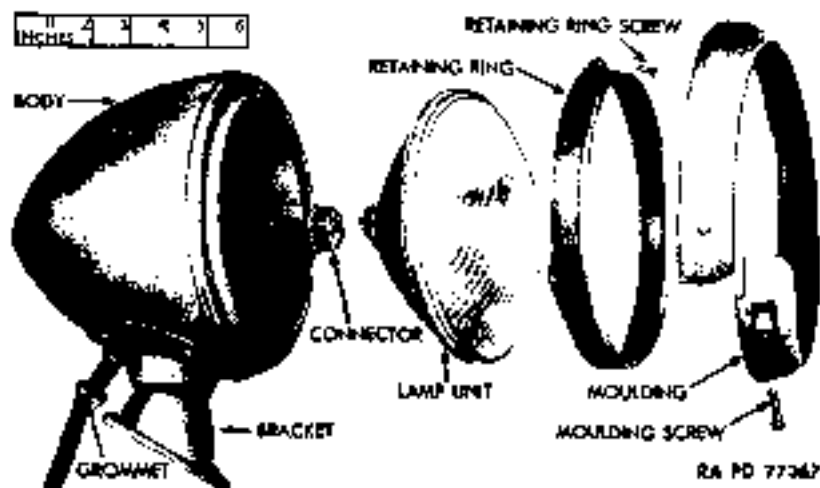

Figure 98 — Headlight Disassembled
(1) DESCRIPTION (fig. 98). Two sealed-beam headlights are mounted outside the cowl above the front fenders. The unit, consisting of lens, lamp, and reflector, is held in place by a retaining ring covered by moulding.
(2) TABULATED DATA.